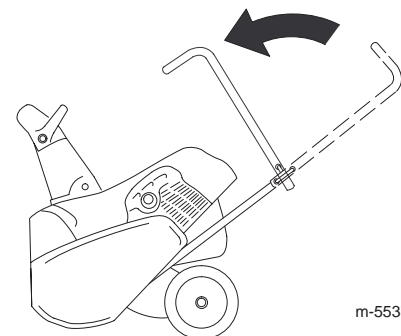

Figure 29
2. Position the upper handle as shown in Figure 29.